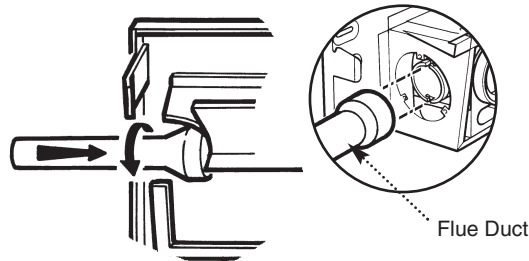

Fig. 63
3. Locate the flared end of the flue duct over the bayonet fitting on the turret, taking care not to damage the 'O' ring. Lock the flue duct in place by pressing in and turning clockwise (Fig. 63).